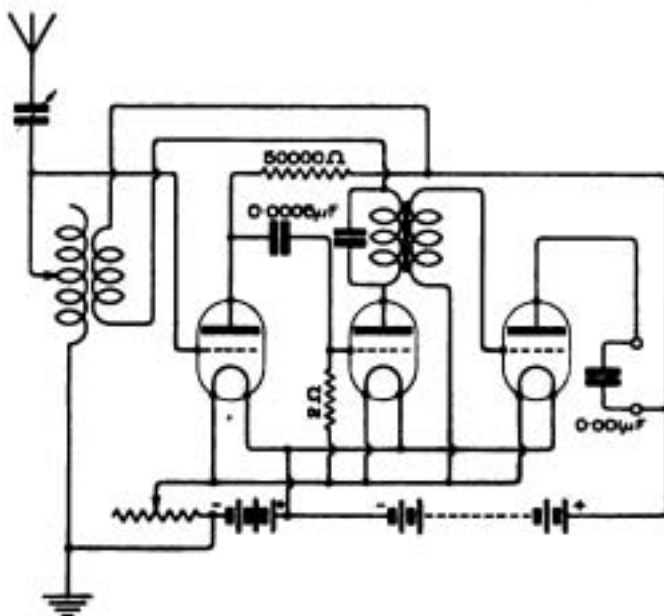

Fig. 3.
**C.Mc.L. (Bearsden)** asks (1) For a diagram of a set with two valves for slab inductances. (2) If E.S.2 valves could be used efficiently on the set. (3) What H.T. to use.
(1) The circuit of Fig. 3, page 526, November 12th, should be quite suitable. There are also many others in recent issues.
(2) Yes.
(3) About 100 volts should be about right on a set of this type.
**J.A.S. (Stonehaven)** asks (1) Whether an earth is improved by putting coke or cinders next to it when burying it. (2) Why an accumulator does not short circuit itself owing to the conductivity of the electrolyte. (3) For a diagram of the filament
The required diagram is given in Fig. 3. It is not essential to use a transformer with 8,000 ohms telephones, but connecting them in the H.T. circuit renders insulation breakdowns likely.